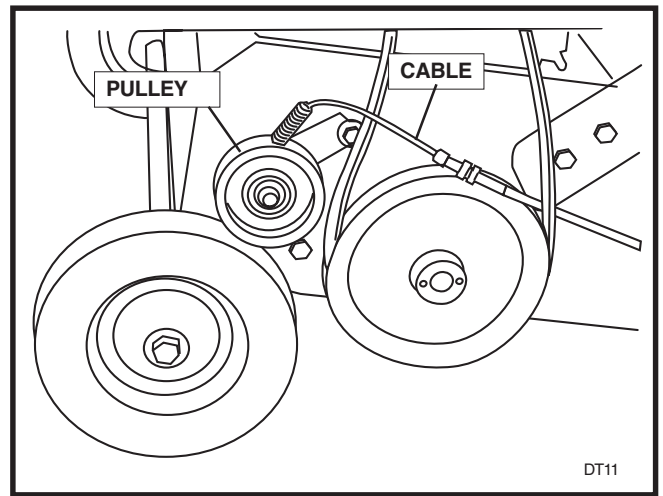

FIGURE 4
- Remove belt guard. Remove cable by removing the pulley. See Figure 4. Attach new cable and replace pulley. Save the old cable for use when the bagger is not used.